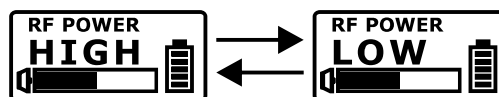

Fig. 14
- (E) RF POWER: RF Power Setting. Fig. 14
- (1) Select HIGH or LOW.
- (2) HIGH has 50mW transmitting power. LOW has 10mW transmitting power. Set appropriate power to meet region/country regulations.